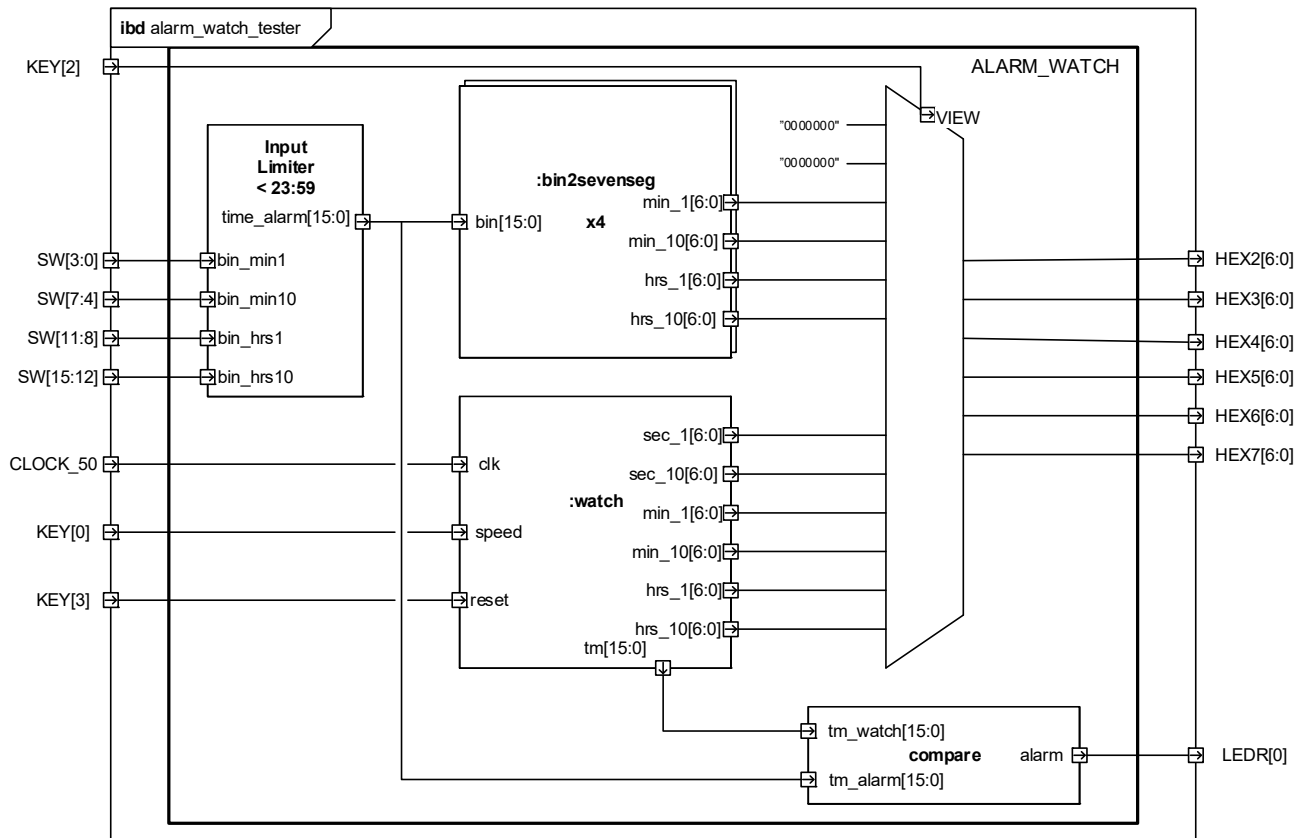

Fig. 6: Alarm clock.
- a) Extend the watch component with an alarm feature with a one minute resolution (meaning: only hours and minutes can be set). Use the time output from the counters to detect an alarm. A roughly sketched drawing for inspiration is shown in figure 6.
- b) Update the tester and instantiate (as shown in figure 6). Download and test the design on the DE2 board.